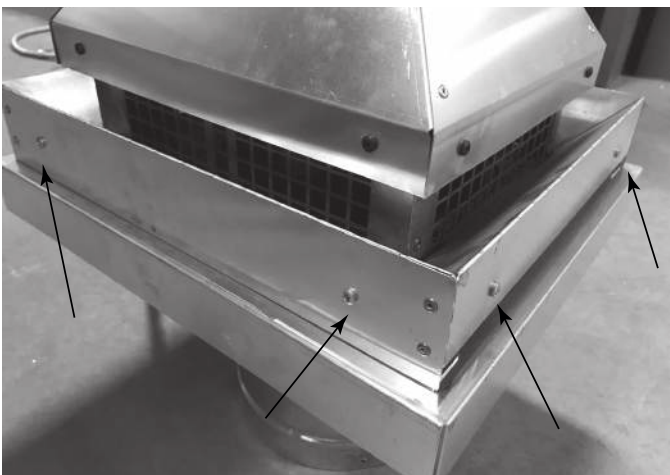

Figure 7.15
- Remove motor assembly from cap base (8) screws. See Figure 7.15.